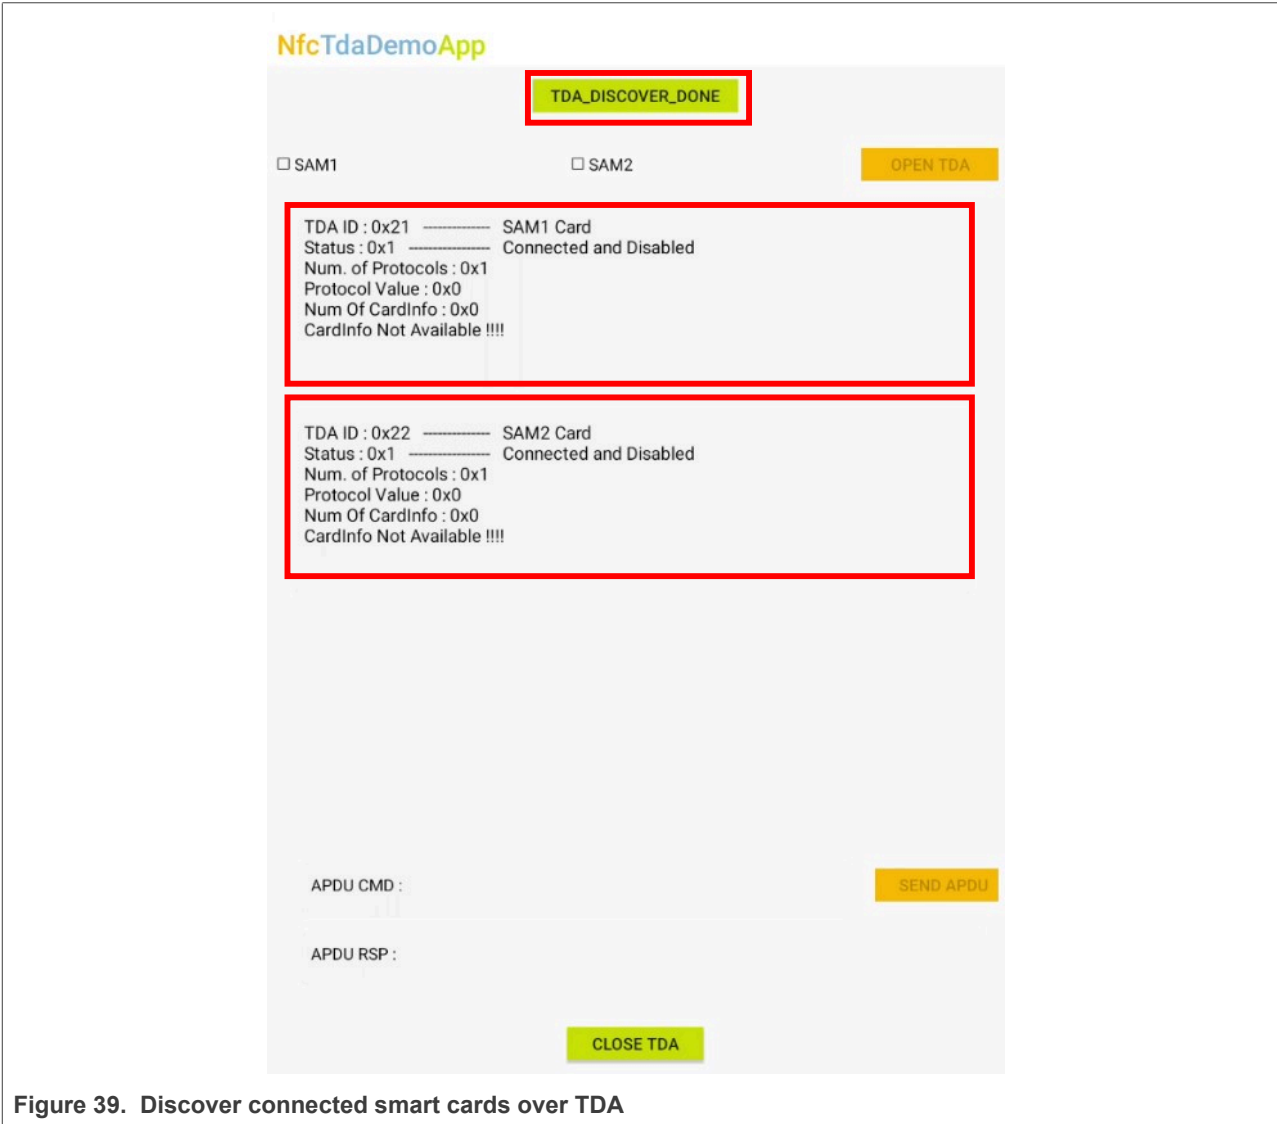

Figure 39. Discover connected smart cards over TDA
- 2. Click "DISCOVER TDA" to find the smart card connected over TDA. The button changes the color to green and the text to "TDA\_DISCOVER\_DONE". Check Figure 39.